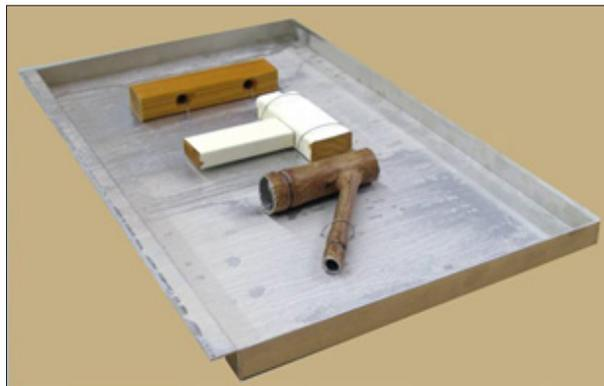

Figure 12.3i: Wide 3D specimen holder.
- For best UV exposure, position specimens away from the edges of the 3D specimen holder. See Figure 12.3i.